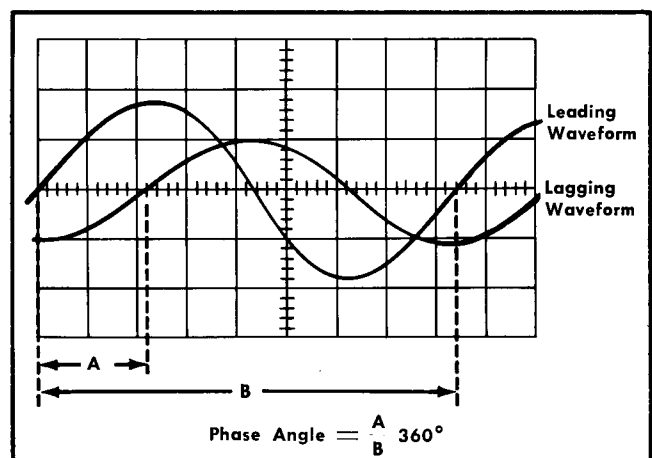

Fig. 2-23. An alternate method for measuring the phase angle between two signals.
With reference to Fig. 2-23 the phase angle between the two waveforms is $360^\circ \times A/B$. It is not necessary to calibrate the display in degrees per centimeter as long as it is possible to measure A and B accurately. It is particularly important to measure A accurately when the phase angle is less than 10° . The delayed sweep feature provides a means for accurate measurements. The phase angle can be found by: (1) measuring A; (2) measuring B; and (3) multiplying A/B by 360° . Here again the relative amplitude of the two waveforms is unimportant as long as the waveforms are centered about the horizontal centerline of the graticule.